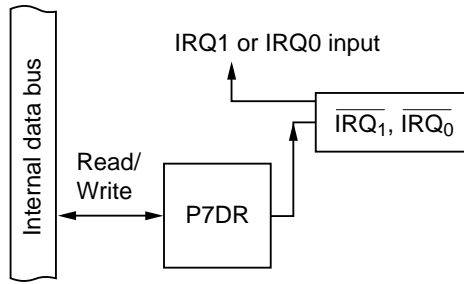

Figure 10-47 $\overline{\text{IRQ}}_1$ or $\overline{\text{IRQ}}_0$ Input Combined with General-Purpose Output (Modes 1 to 7)
(3) **$\overline{\text{IRQ}}_1$ or $\overline{\text{IRQ}}_0$ Input Combined with General-Purpose Output (P7_1 , P7_0 : Modes 1 to 7):** Figure 10-47 shows a block diagram illustrating the $\overline{\text{IRQ}}_1$ and $\overline{\text{IRQ}}_0$ input function when combined with general-purpose output. Table 10-38 indicates register read/write data. When P7_1 and P7_0 are used for $\overline{\text{IRQ}}_1$ and $\overline{\text{IRQ}}_0$ input they can also function as general-purpose output ports. If the general-purpose output function is used, however, output of a falling edge will cause an interrupt.